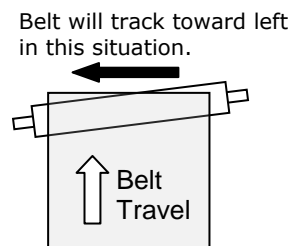

Figure 4.2 – Pulley Adjustment for Belt Tracking (Plan View)
- Prior to starting the conveyor, again ensure that all pulleys and rollers are square and level. Initially, avoid the situation shown in Figure 4.2.
- Review belt position at all pulleys. Track belt if necessary based on Figure 4.2.